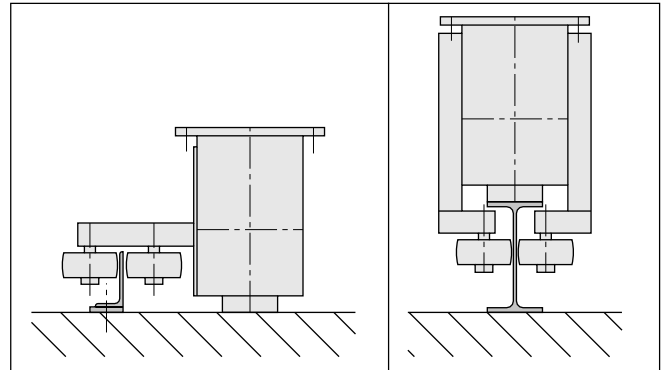

Fig. 2 - Traversing on concrete track, Fig. 3 - Traversing on rails with "L" shaped guide rail
The trolley is guided along the track by guide wheels (8) attached to the wheel box when "L" shaped guide rails (Fig. 2) or rails (Fig. 3) are used.